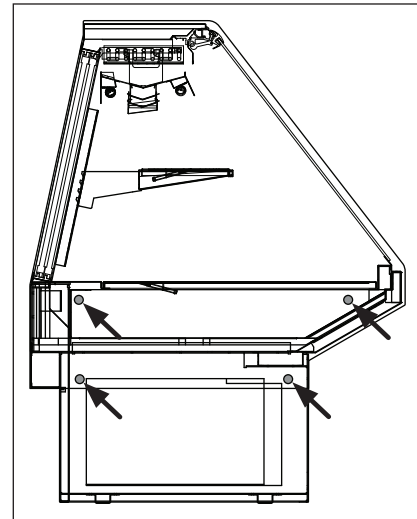

Fig. 3 Bolt locations
- Push the cases tightly together, then lightly bolt them together through the holes provided (Fig. 3). Tighten all the joining bolts until all margins are equal. Be careful not to over tighten.